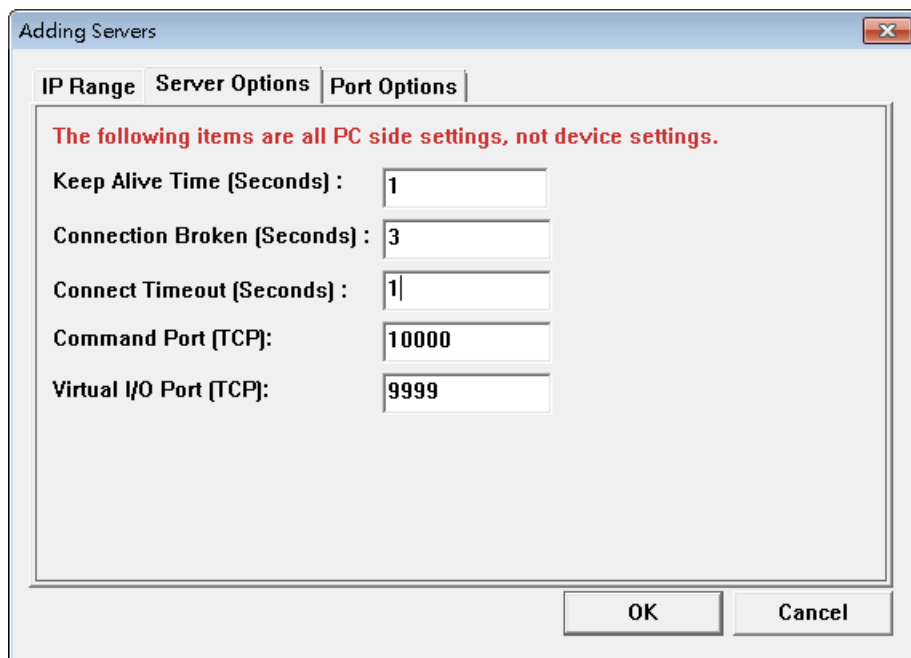

Figure 6.10.16
H. Then click on the Server Options at the top of the window and follow the screen setting parameters as shown in Figure 6.10.16. After setting, select "OK". ◦